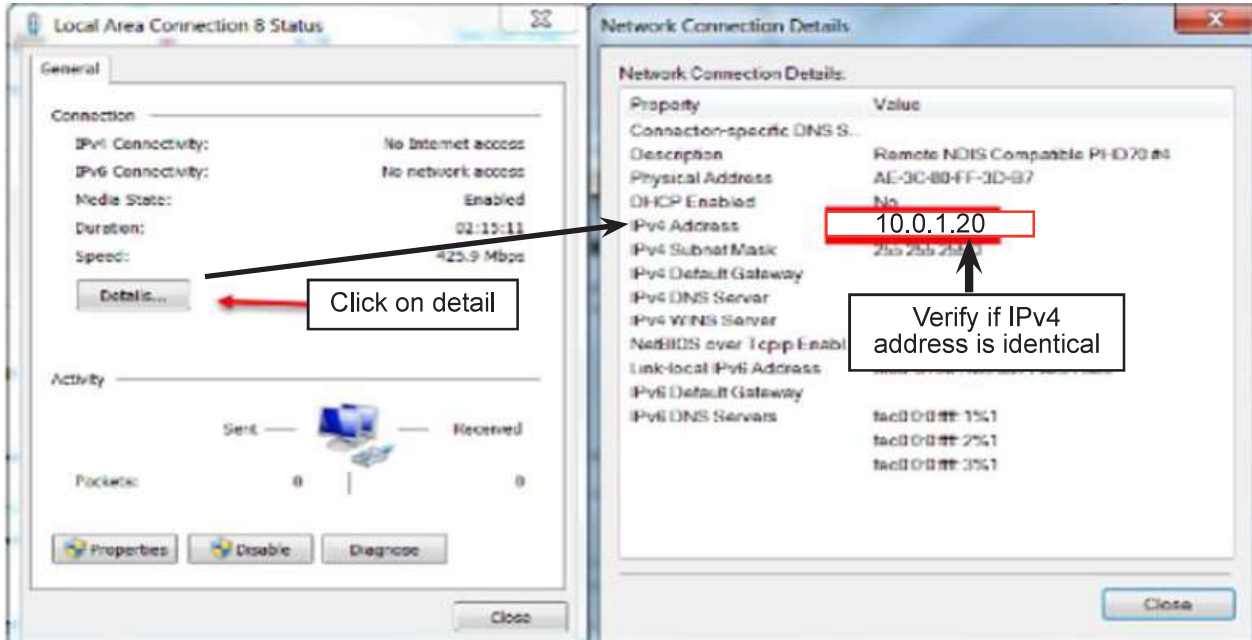

Figure 8 - Verification of the IP Address
- 1.13. In the **Local Area Connection and Status** window click on **Details** button to open the **Network Connection Details** window and verify if the IP address value matches the one indicates in Figure 8. If the address corresponds to the one indicates in Figure 8, proceed to the next step (1.14). If the address doesn't correspond to the one indicates in Figure 8, perform the following sub-steps.